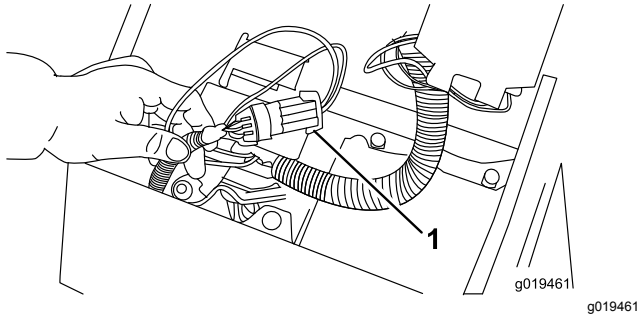

Figure 30
2. Open the control panel cover. Locate the wire harness and the loop-back connector. Carefully unplug the loop-back connector from the harness connector (Figure 30).